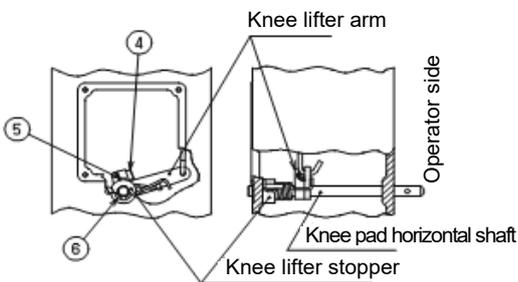

Fig. 16
Loosen the knee lifter arm tightening screw ④ (one place) and the knee lifter stopper setscrew ⑤ (one place). (Fig. 16)
Remove the E-ring ⑥ (one place) attached to the end of the knee pad horizontal shaft and pull out the knee pad horizontal shaft towards the operator. At this time, support the knee lifter arm, knee lifter stopper and the knee lifter spring with your hands to prevent them from falling. (Fig. 16)